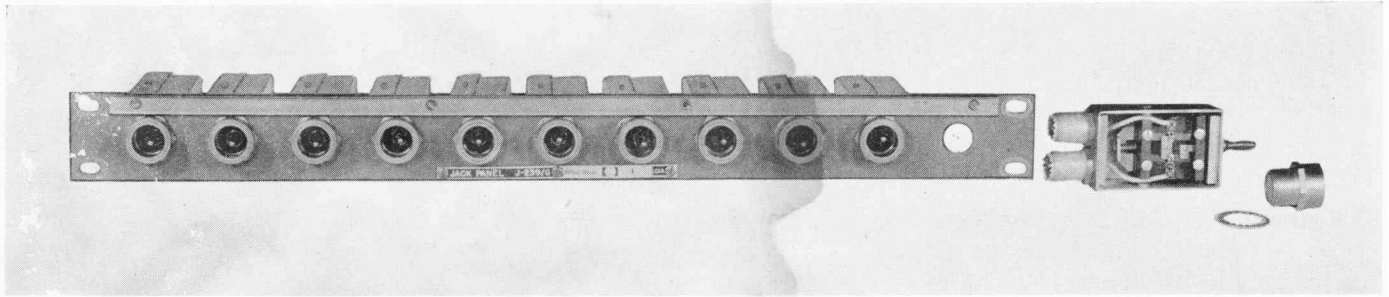

Figure 1-9. Jack Panel AN Type J-239/G, Front View With One RF Jack Switch Navy Type CIA-491388 Removed
(6) JACK PANEL AN TYPE J-239/G (Figure 1-9).—Jack Panel AN Type J-239/G mounts on the